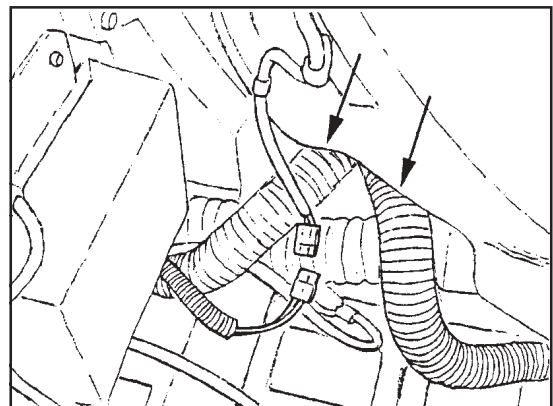

Figure 13B
- Reconnect the vacuum and squeegee hoses to the recovery lid. Make sure the hose to the vacuum motor and the rear squeegee hose are installed over the top of the drain hose (See figure 13B).